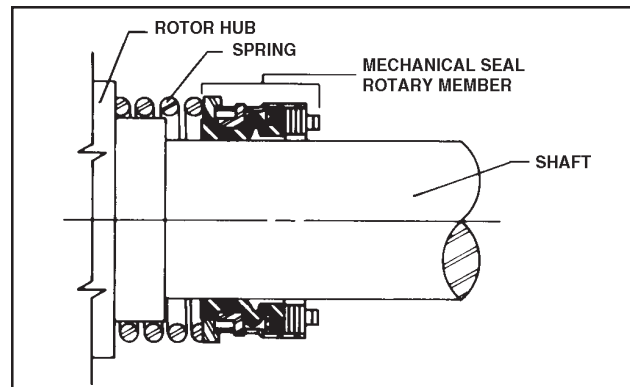

Figure 21
5. Place seal spring on shaft against rotor hub. Refer to Figure 21.